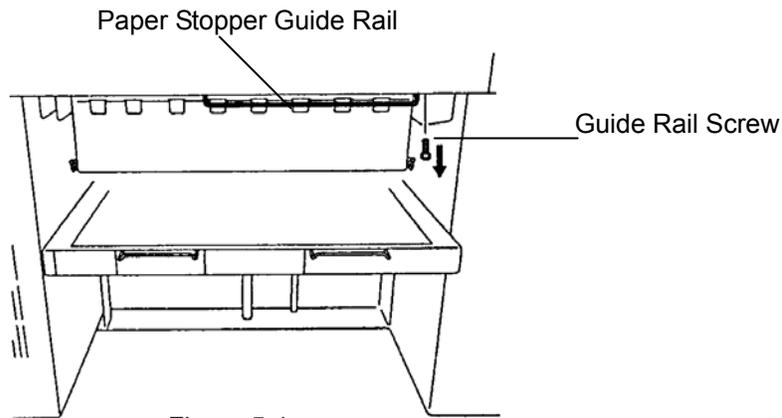

Figure 5-1
1. Remove the front of the Paper Stopper Guide Rail Screw shown in Figure 5-1.